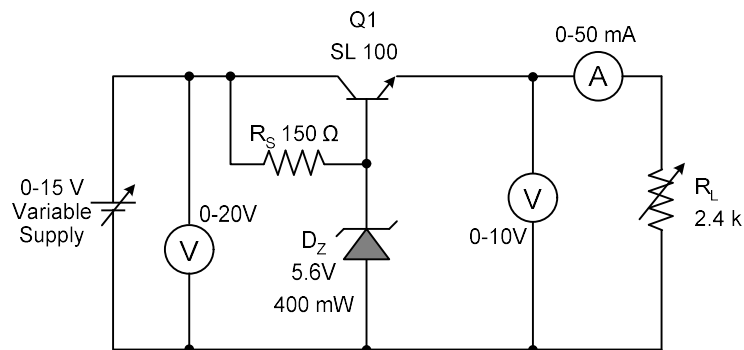

Fig. 1 Circuit diagram of series regulator
1. The circuit is wired as per the circuit diagram shown in fig. 1.